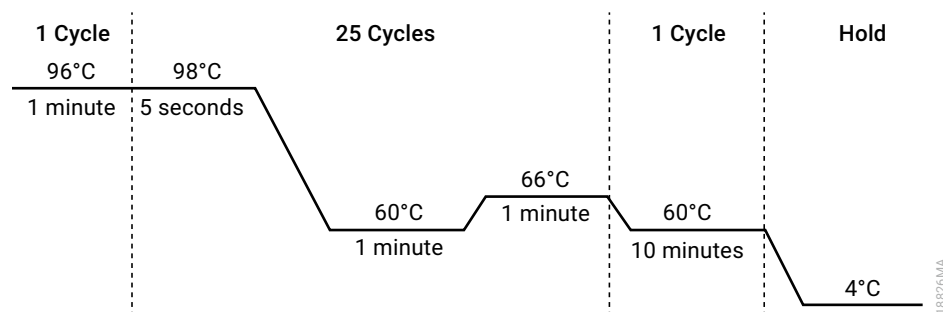

Figure 37. Thermal cycling protocol for the ProFlex® PCR System.
- Select and run the recommended protocol provided below and in Figure 37. The total cycling time is approximately 80 minutes.